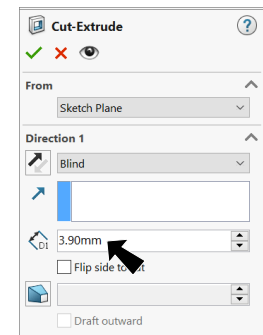

Fig. 63
Step 18. In the Cut-Extrude Property Manager set: under Direction 1, **Fig. 63**